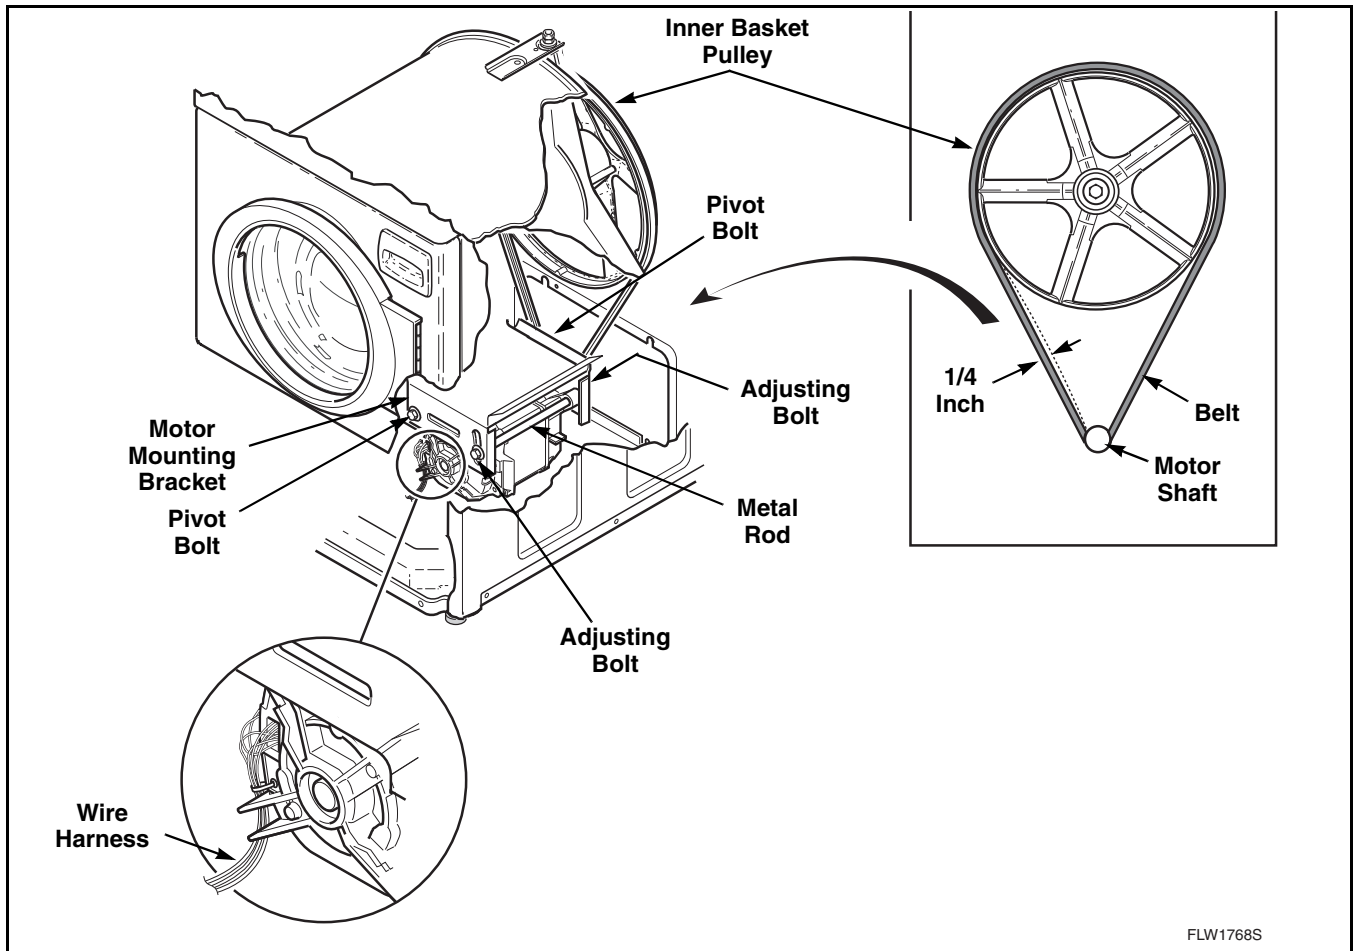

Figure 14
to *Figure 14*. Repeat procedure to loosen the two pivot bolts. Refer to *Figure 14*.
- Pull down on motor to increase belt tension. Use a Burroughs belt gauge to obtain proper tension. Proper belt tension is obtained when belt can be deflected approximately 1/4 inch (6.35 mm) from normal position when moderate pressure 50 to 60 pounds (22.68 to 27.22 Kg) is applied to a point midway between pulleys. Refer to *Figure 14*.
- After proper belt tension has been obtained, tighten belt adjusting bolts firmly, then tighten pivot bolts. Refer to *Figure 14*.